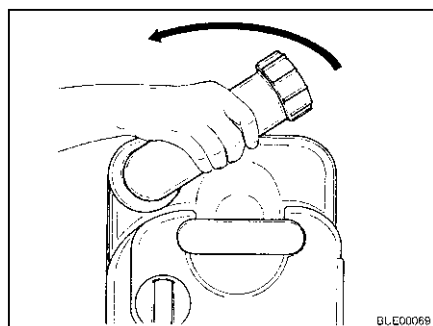

Fig. 197 Turning drainage neck
- Turn the drainage neck upwards (Fig. 197).